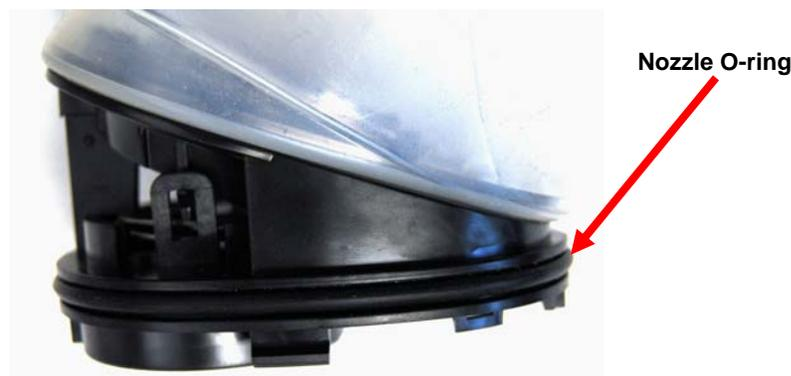

Figure 3
1. As shown in Figure 3, make sure that the nozzle assembly o-ring is seated correctly.